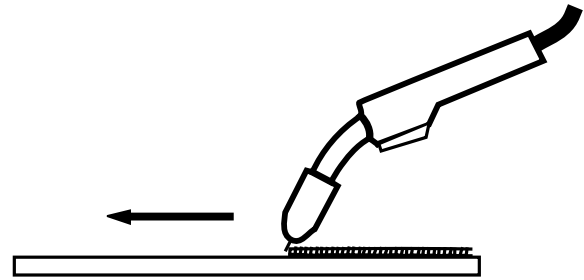

FIGURE B.21
Figure B.21 illustrates the correct welding position for right handed people. (For left handed people, it is the opposite.)
3. When welding sheet metal 16 gauge (1.5 mm) and lighter, heat buildup may cause part warpage and burn through. One way to eliminate these problems is to use the back-stepping method illustrated in Figure B.21.